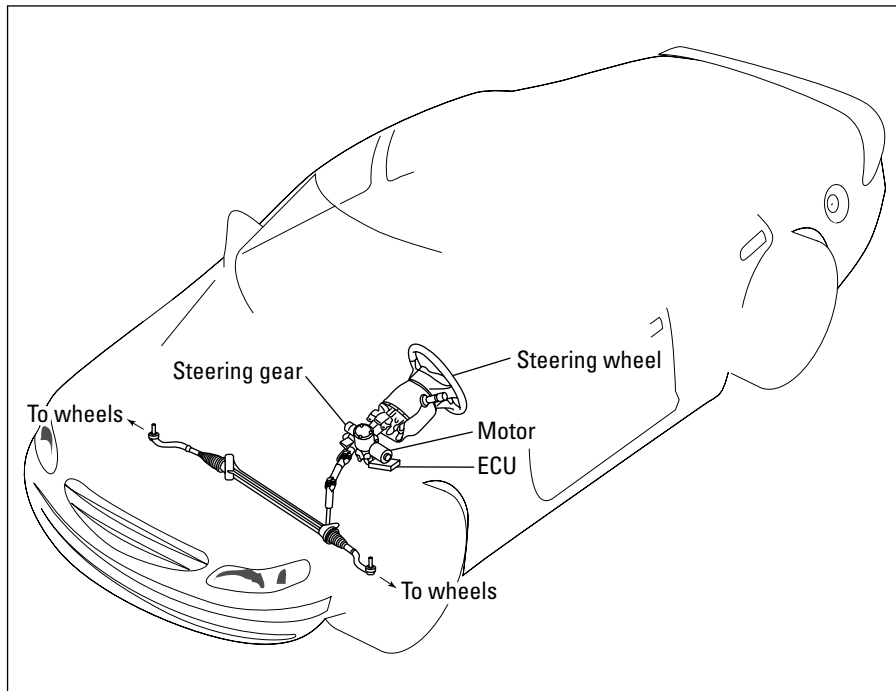

Figure 16-3: An electronic power steering system.
- ✔ **Electronic power steering systems**, also called *electronically assisted steering*, use an electric motor or motors instead of hydraulics to drive the steering mechanism (see Figure 16-3). An **ECU** controls the operation of the system. If the electronic system fails, the rack-and-pinion system continues to operate as unassisted (or unpowered) steering.